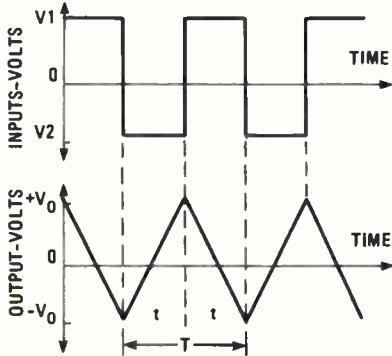

FIG. 6—IF A SQUAREWAVE is input to an integrator, the output will be a triangular wave.
When a squarewave (see Fig. 6-a) is input to an integrator, the resulting output is a triangular wave (see Fig. 6-b). (Note that for a positive input, the output is the negative integral, as is indicated by the circuit's transfer function.) Assuming a symmetrical input, that is $|V1| = |V2|$, the slopes of the ramps that make up the triangular wave are equal to $2V_0/t$, where t is equal to $1/2$ the period (T) of the input squarewave. It is then a simple matter to measure V_0 and calculate that slope.